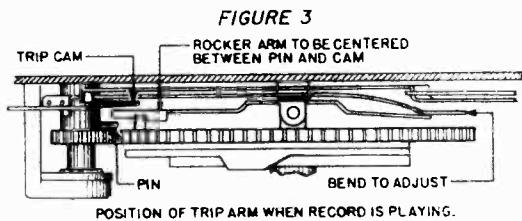

FIGURE 3
- To check the trip action adjustment, place the gauge (hole marked B) on the lower spindle and set needle or center pin in hole marked TONE ARM TRIP (1 7/8 centers). When in this position, the tone arm. With the pinion shaft, the starting lever should be touching cam when cam and starting lever are in this position. The tone arm tripping lever should be in contact with the starting lever. Likewise the rocker shaft causing large cam gear to engage pinion gear must be in contact (beneath) the end of the bearing. Fig. 3 shows the correct position. The bearing should be adjusted to make contact. The end of starting lever must not be any more than that which is necessary to center the other end of the rocker bar between the cam and the pin on the small pinion gear (Fig. 3) (running position).